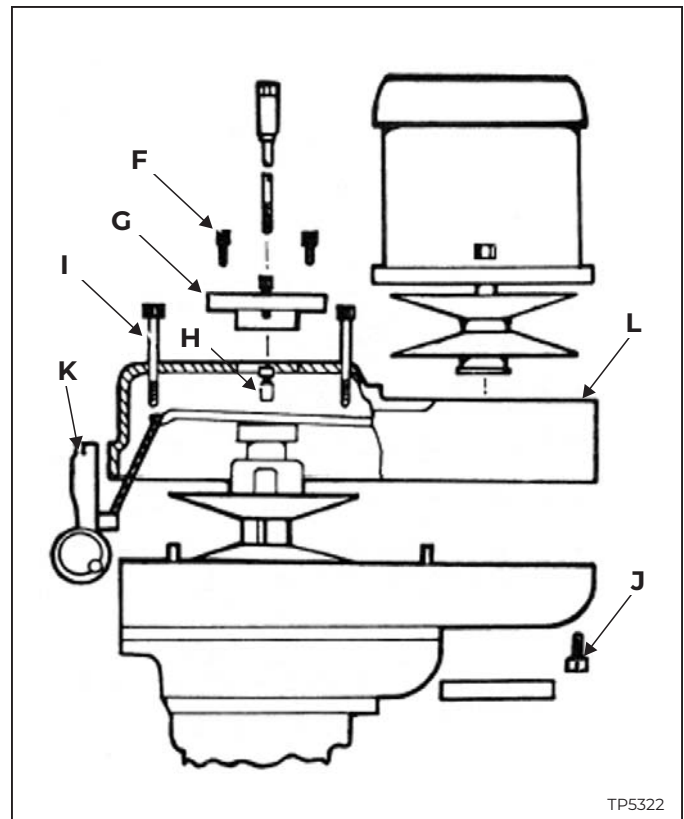

Figure 3.3 - Drive Belt Replacement
2. Remove the screws "F", Figure 3.3, insert into the adjacent tapped holes and withdraw bearing housing "G"